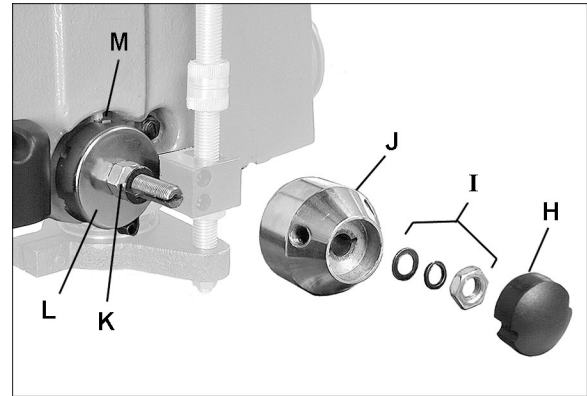

Figure 20
Referring to Figure 20:
2. Pry off cap (H, Figure 20) and remove hex nut and two washers (I). Pull off hub (J).
3. Loosen two inner hex nuts (K) *Do not remove*.
4. Pull out slightly the coil spring cover (L) while firmly holding it. DO NOT allow the coil spring cover to turn freely in your hand, or the spring will unwind.
5. Rotate coil spring cover until tab (M) on the spring retainer engages the next notch in coil spring cover. Rotate coil spring cover counterclockwise to increase spring tension, clockwise to decrease.
6. Make sure coil spring cover is pushed back in, then tighten two hex nuts (K). Do not over tighten. The hex nuts should be tightened against each other.
The quill return spring should receive SAE 20 oil once yearly. Apply the oil beneath the coil spring cover (L, Figure 20) using a squirt can.